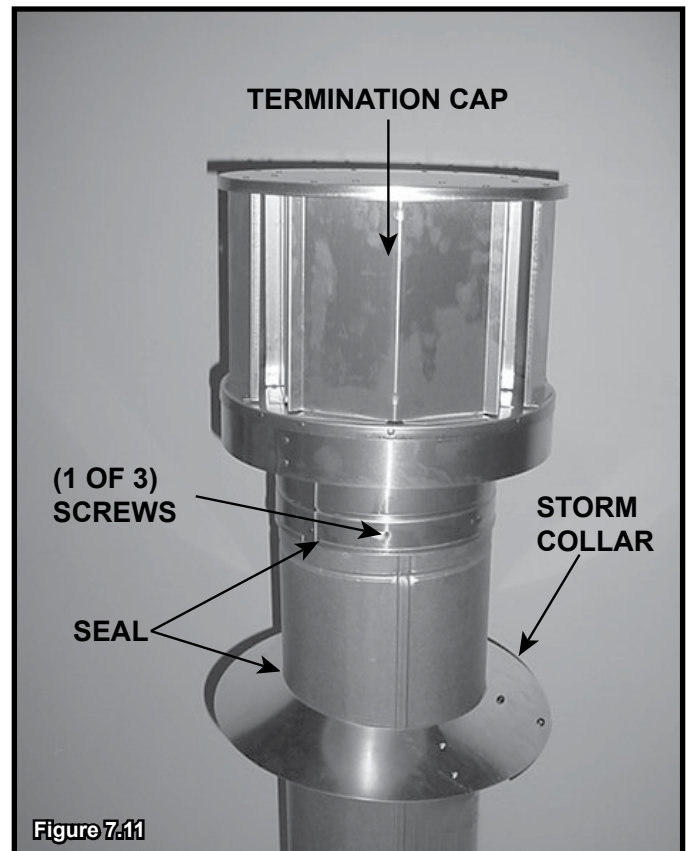

Figure 7.11
- Seal around the top of the storm collar. See Figure 7.11.
- Secure the cap by driving three self-tapping screws (supplied) through the pilot holes in the outer collar of the cap into the outer flue of the pipe. See Figure 7.11.